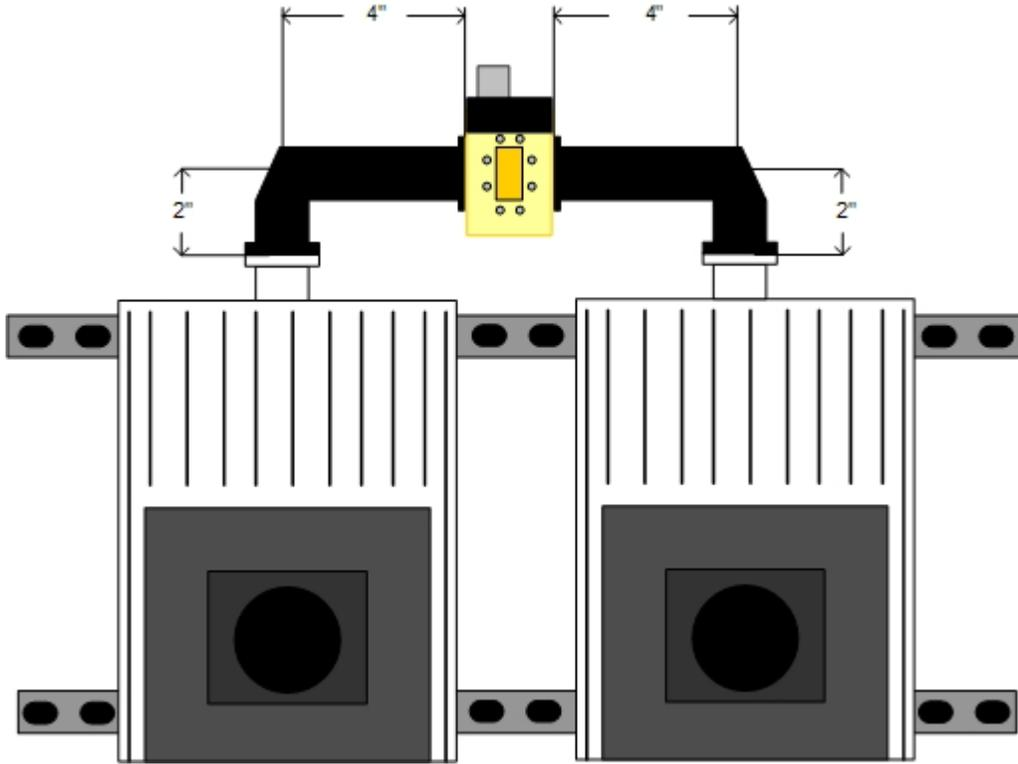

Figure 4-4 BUC Mount Front View on King Post
3. Install BUCs, LNBS and waveguide hardware onto mounting kit as shown in Figure 4-4. This displays the optional Radyne unistrut mounting kit for antenna kingpost mounting.